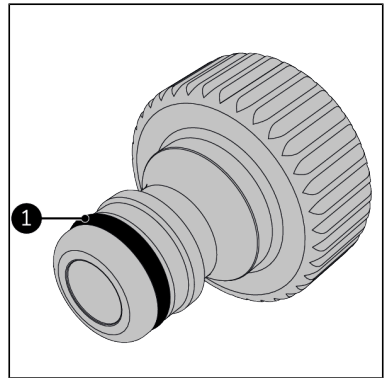

Figure 39.
7. Apply Vaseline to the O-ring of the garden hose coupling (Figure 39, pos 1).